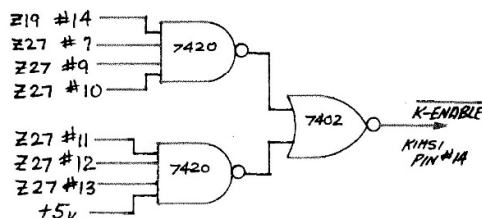

FIG 1. GENERATES NEW K-ENABLE SUITABLE FOR AIM MEMORY MAP. SEE ALSO KIMSI, MANUAL PAGE 44 (3) FIGURE 'C'.
Next, to accomodate AIM's memory map, we have to create a new K-enable. This is explained on page A4(2) of the KIMSI manual, but the general idea is to tell the KIMSI to turn itself off when the proc. is "talking" to a device on it's own board. I used the circuit in fig. 1 on a small piece of breadboard mounted on the AIM. This, I thought, was better than running 8 lines to the KIMSI prototype area. As explained in the KIMSI manual. The KIMSI decoding circuitry has to be disabled by cutting the "V" shaped run under the board at Z11, pin 11.